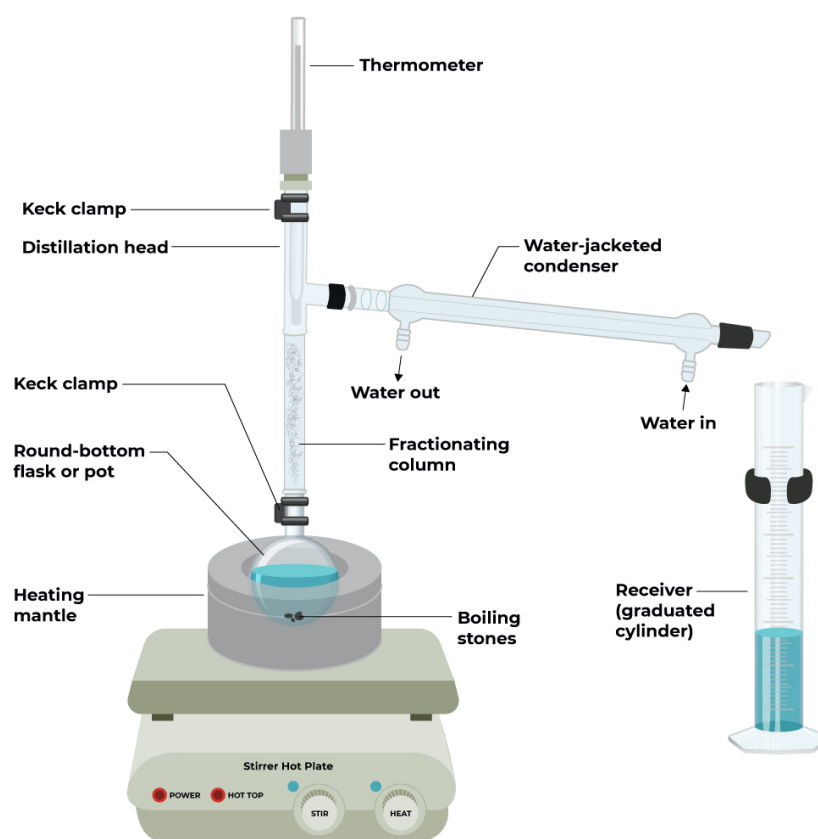

Figure 2A.2: Semi-micro scale fractional distillation setup
- Once the distillation glassware has sufficiently cooled, install a fractionating column with metal turnings between the round-bottom flask and the distillation head, as shown in Figure 2A.2.